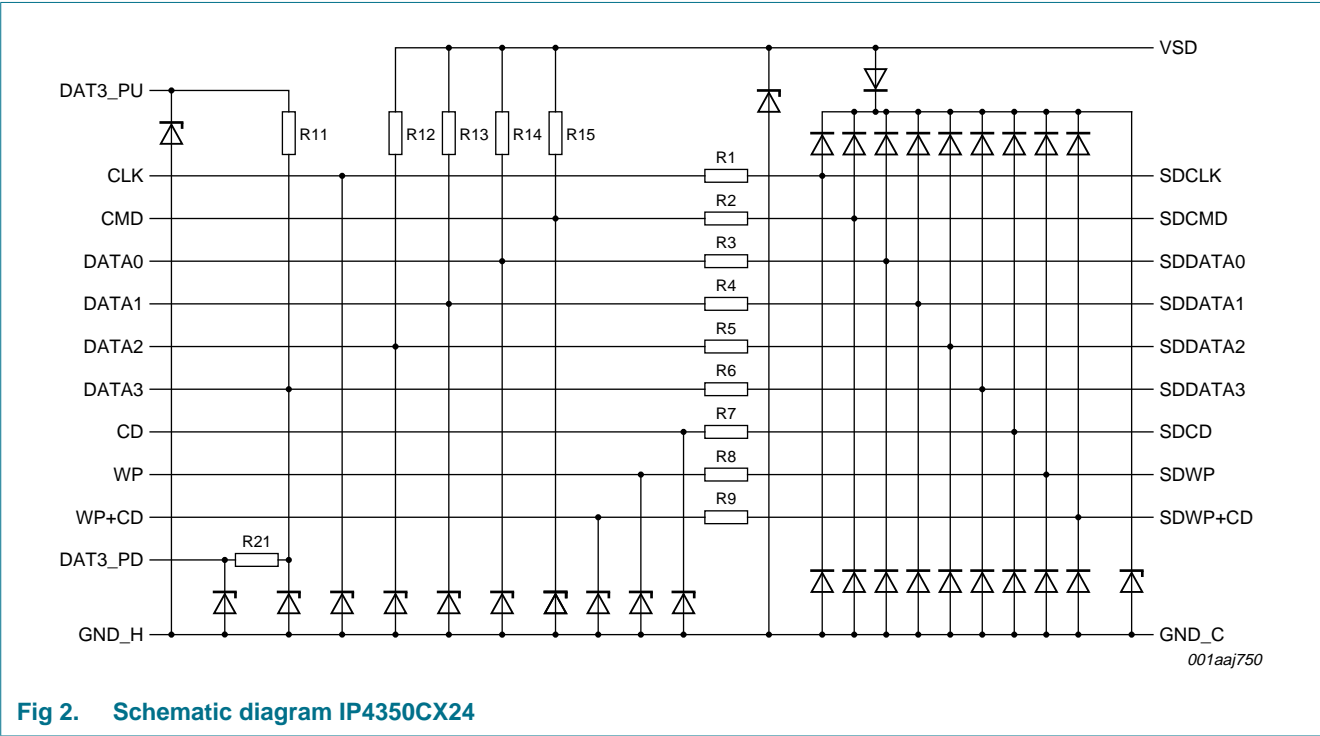

Fig 2. Schematic diagram IP4350CX24
- [2] Performed on all high speed lines (channels including R1 to R9, see Figure 2).